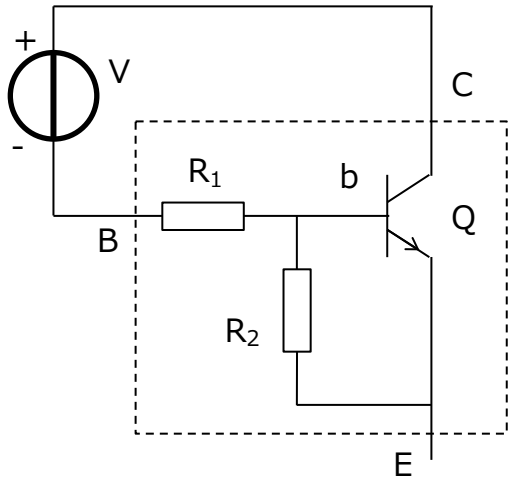

Figure 4-1 I_{CBO}
Voltage is applied across the collector (C) and base (B) terminals with the emitter (E) terminal open-circuited as shown in Figure 4-1 so that the pn junction between the collector and base is reverse-biased. This causes the pn-junction diode between the collector (C) and base (b) of the internal transistor (Q) to be reverse-biased. As this reverse bias increases, leakage current begins to flow. The maximum leakage current is defined as the collector cut-off current (I_{CBO}).